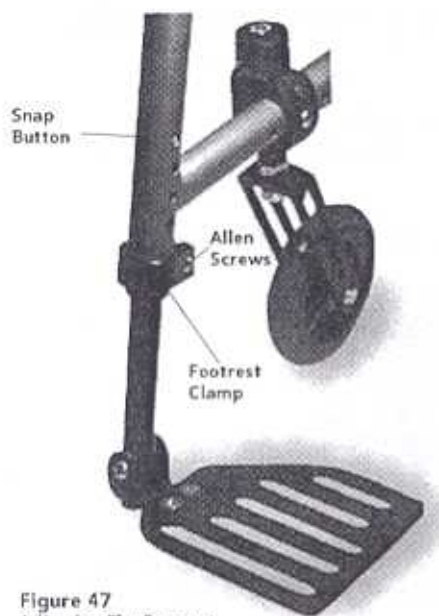

Figure 47
1. Loosen the allen screws on the footrest clamp [Figure 47].